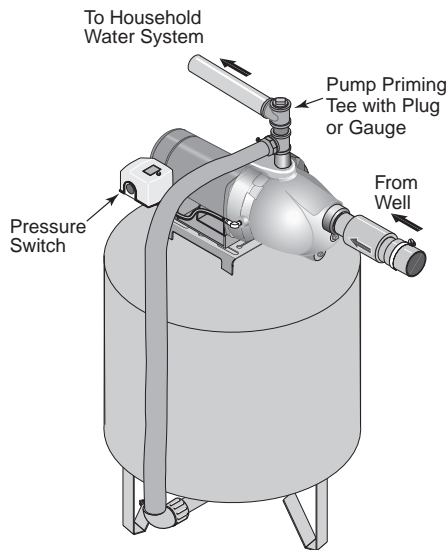

Figure 4: Pre-charged Tank Connections
Pre-Charge Tank Connection (Figure 4)
1. Install two tees in the pump discharge port (see Figure 4). The pipe size must be at least as large as the discharge port.